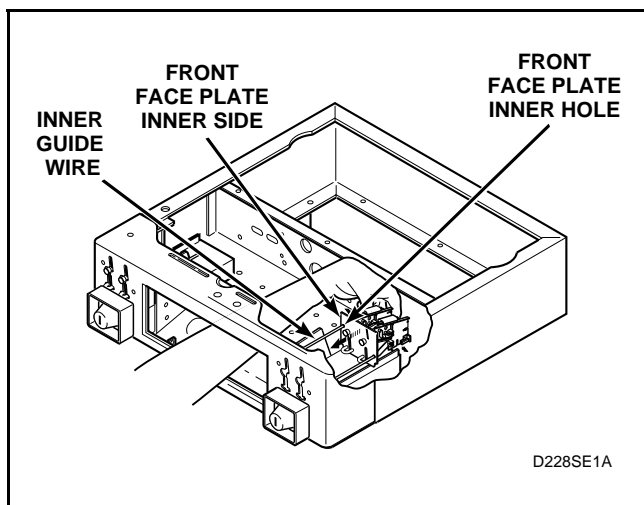

Figure 27
- (3.) Pull the inner side of the coin drop's front face plate forward so the inner guide wire enters the front face plate's lower hole. Gently tug coin drop sideways to feel if the inner guide wire has entered the hole. See *Figure 27*.